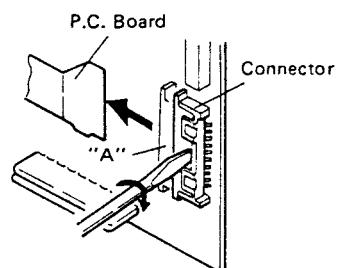

Fig. 29
**Note:** When removing the pickup be sure to short the pattern space with either a short pin or a jumper. Don't remove the short pin until after attaching the pickup and then attaching the P.C. Board (Fig. 29) to the main unit (1/3).